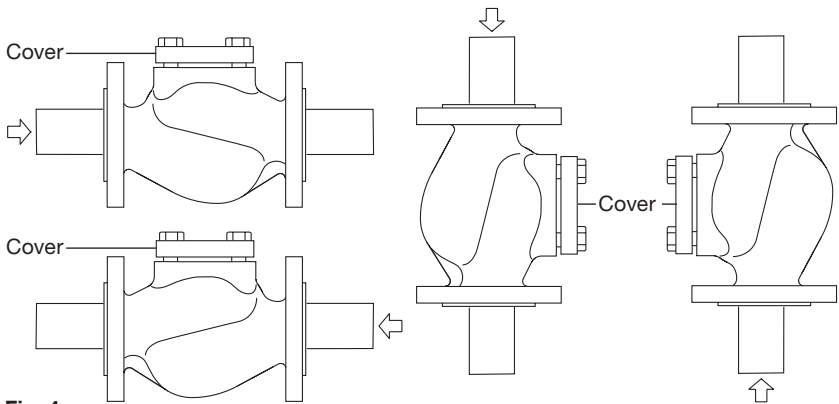

Fig. 4
- 3.4** The LCV is designed for installation in horizontal and vertical pipework (see Figure 4).